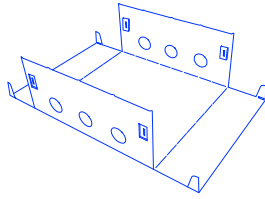

Fig 2.
4. Bend the adjacent sides up 90° – Fig 2.